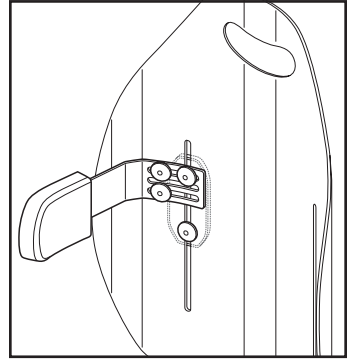

Fig. 6
- b. When mounting through the shell bracket, use one (1) $\frac{1}{4}$ -20 x .75 cap screw and two (2) $\frac{1}{4}$ -20 x .375 cap screws. Fig. 6